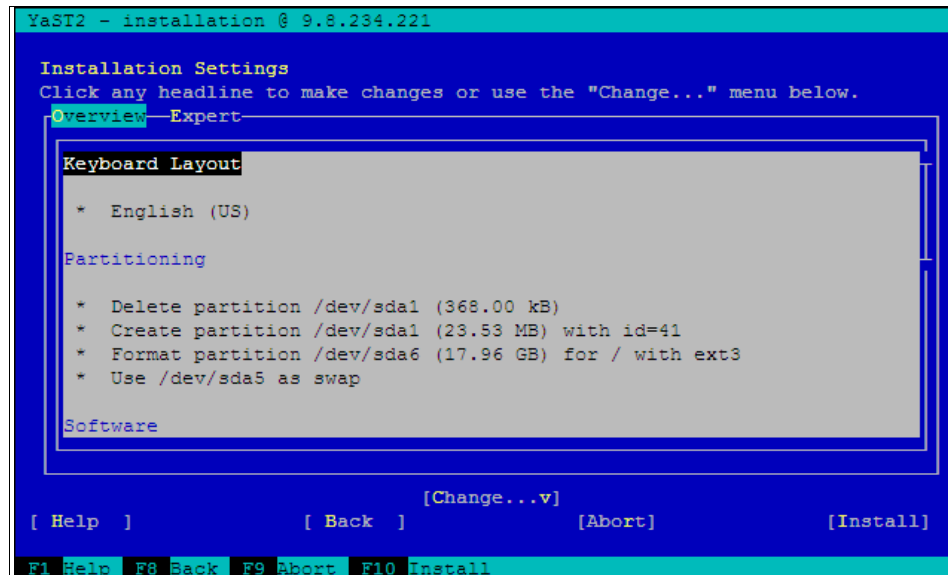

Figure 9-20 Installation Settings
14. The Installation Settings window provides the Keyboard layout, Partitioning information, Software installation options, and the install Language configuration. Select the **[Change...]** option to edit any of these fields. Select **[Accept]** when these settings are complete, as shown in Figure 9-20 on page 382.